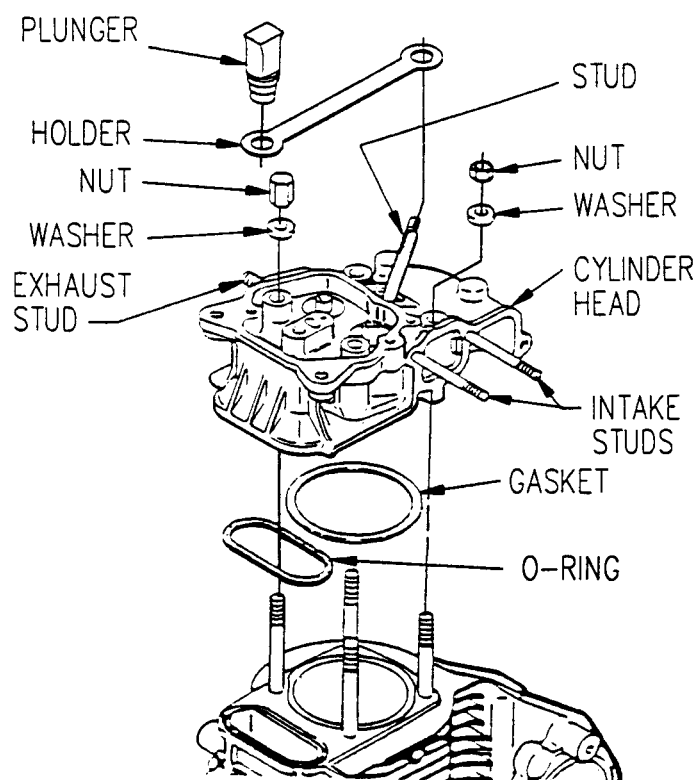

Figure 5-6. Cylinder Head Assembly
- (1) Shut down generator set.
- (2) Remove air intake system components, refer to paragraph 4.18.a.
- (3) Remove air intake heating elements and pipe, refer to paragraph 4.51.a.
- (4) Remove exhaust system components, refer to paragraph 4.19.a.
- (5) Remove fuel filter assembly, refer to paragraph 4.15.a.
- (6) Remove fuel injector, refer to paragraph 4.12.3.a.
- (7) Remove valve cover, refer to paragraph 4.56.a.
- (8) Disconnect preheater lead from engine, refer to paragraph 4.60.c.
- (9) Remove nuts (Figure 5-6), washers, cylinder head, gasket, and o-ring from cylinder block.
- (1) If removed, install the following:
- (b) Apply locking compound (Item 6, Appendix E) to threads of studs. Install all studs and torque to 5 - 7 lbs-ft (6.8-9.8 Nm) (Figure 5-6).
- (2) Position o-ring, gasket, and cylinder head on cylinder block.
- (3) Apply a light coat of lubricating oil (Item 14, Appendix E) to threads and seating surfaces of nuts. Install and cross torque nuts to 20 - 23 lbs-ft (27-31 Nm).
- (4) Install valve rocker arm assembly, refer to paragraph 5.12.c.
- (5) Install valve cover, refer to paragraph 4.56.c.
- (6) Connect preheater lead to engine, refer to paragraph 4.60.e.
- (7) Install fuel injector, refer to paragraph 4.12.3.c.
- (8) Install fuel filter assembly, refer to paragraph 4.15.c.
- (9) Install exhaust system components, refer to paragraph 4.19.c.
- (10) Install air intake heating elements and pipe, refer to paragraph 4.51.d.